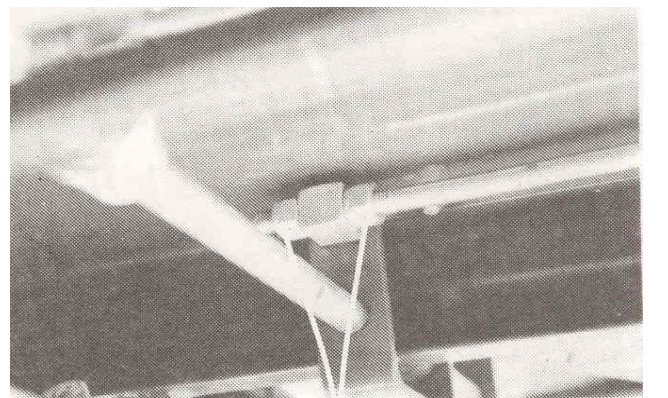

Fig. 25
1. Loosen locknuts (A) on control rod Fig.25